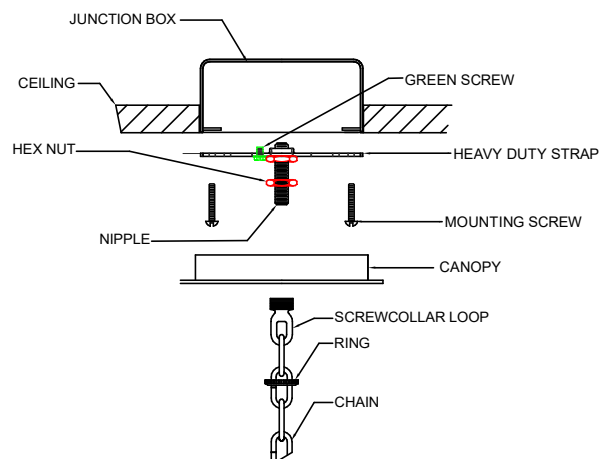

FIGURE-01
1. Attach the heavy duty strap unto the junction box. (The green screw should face the floor). Place the heavy duty strap at the junction box and fasten using the mounting screw. (See FIGURE-01.)